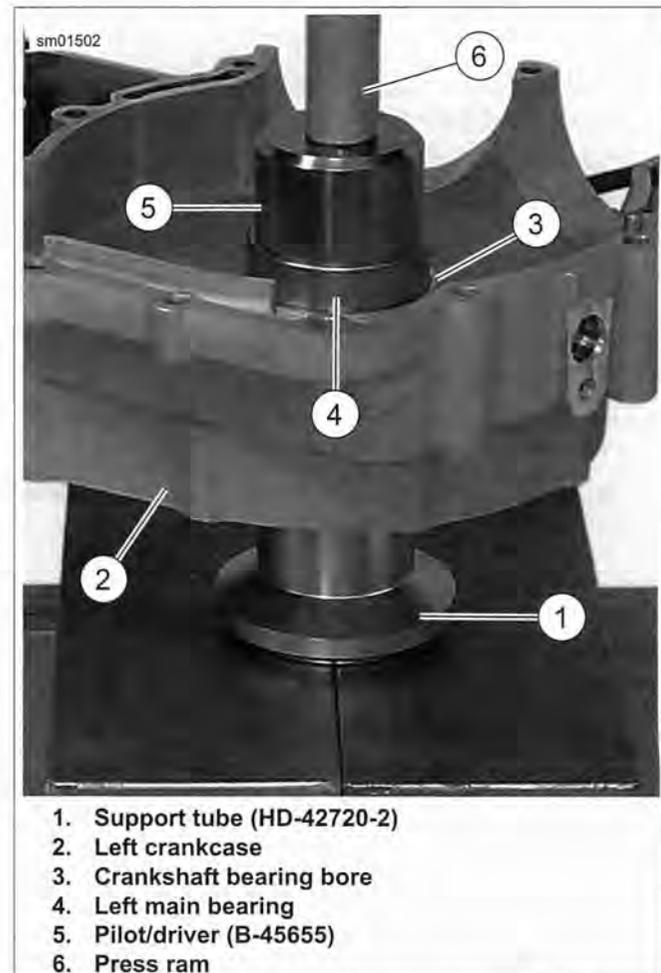
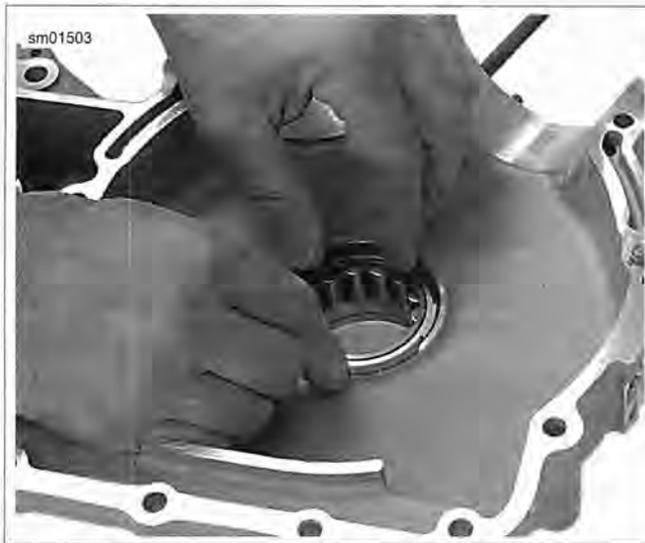

Figure 3-144. Installing Left Main Bearing in Crankcase
Figure 3-145. Installing Left Main Bearing Retaining Ring
1. See Figure 3-144. Using CRANKCASE BEARING REMOVER/INSTALLER (Part No. B-45655) and CRANKCASE BEARING REMOVER/INSTALLER BASE (Part No. HD-42720-2), press left main bearing into the left crankcase.
- a. Place support tube (1) on press bed with recessed cup end facing up.
- b. With the inboard side of the left crankcase (2) facing upward, position crankshaft bearing bore (3) over support tube.
- c. Place left main bearing (4) over bearing bore. Insert pilot/driver (5) through left main bearing, through crankshaft bearing bore and into support tube.
- d. Apply pressure with press ram (6) until left main bearing bottoms out in bearing bore.
2. See Figure 3-145. Install **new** retaining ring from the inside of the left crankcase.